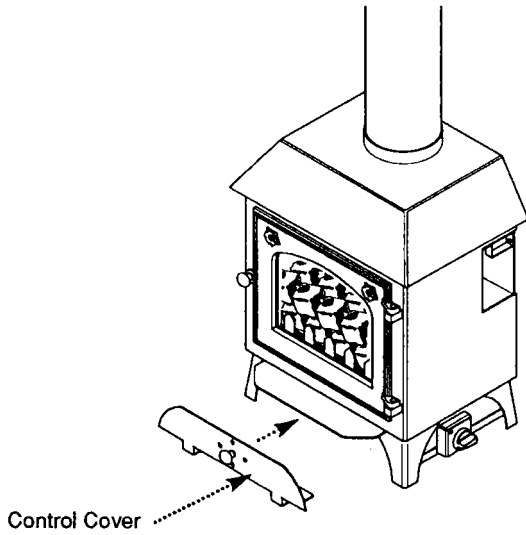

Fig. 24
1. Unpack the controls cover and place it centrally underneath the stove (Fig. 24).